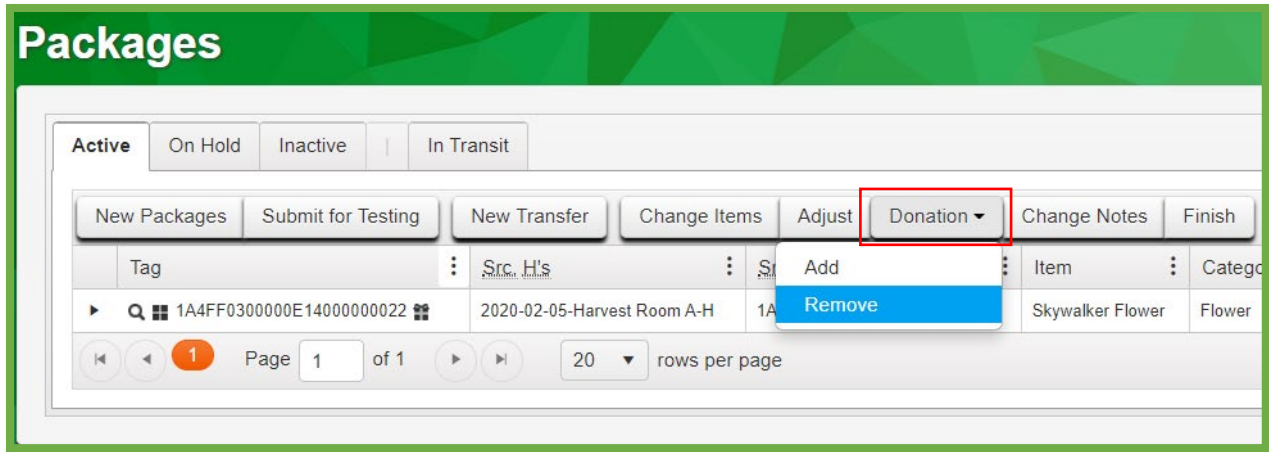

Figure 4: Removing the Donation Designation
2. Select the *Donation* button, and then select *Remove* as shown in **Figure 4**.